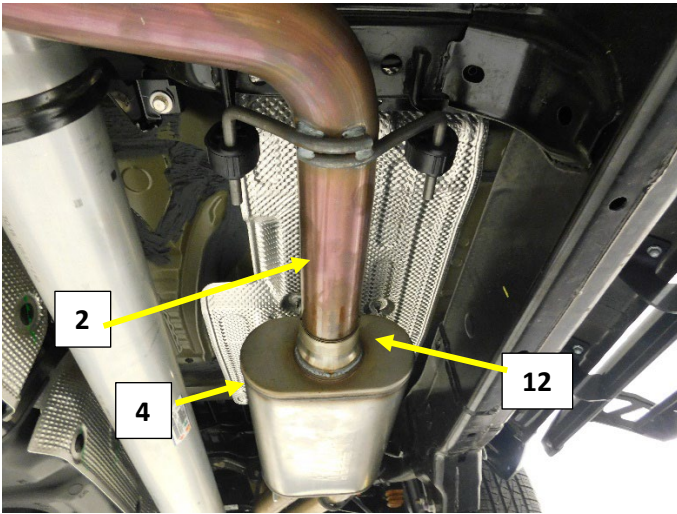

Figure.7
5. Install a 3" band clamp (12) on to the inlet of the 72688-Z muffler (4). Fig. 7
6. Install the muffler (4) on to the muffler inlet pipe (2), align the muffler with the logo down and muffler case level. Tighten the clamp. Fig. 7 **Note: Use extension pipe 26984S (3) between Muffler and inlet pipe for 145.1" wheel base**